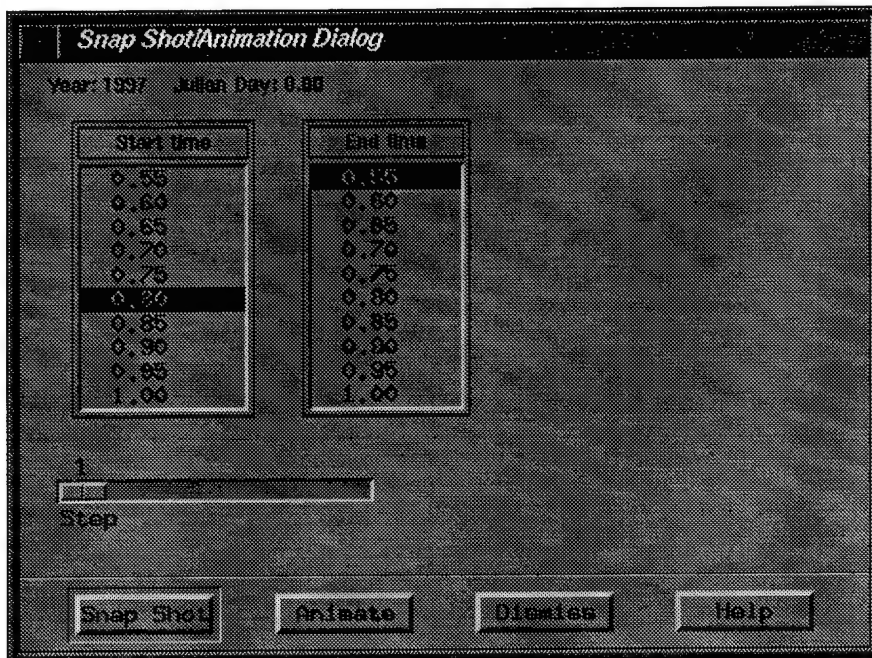
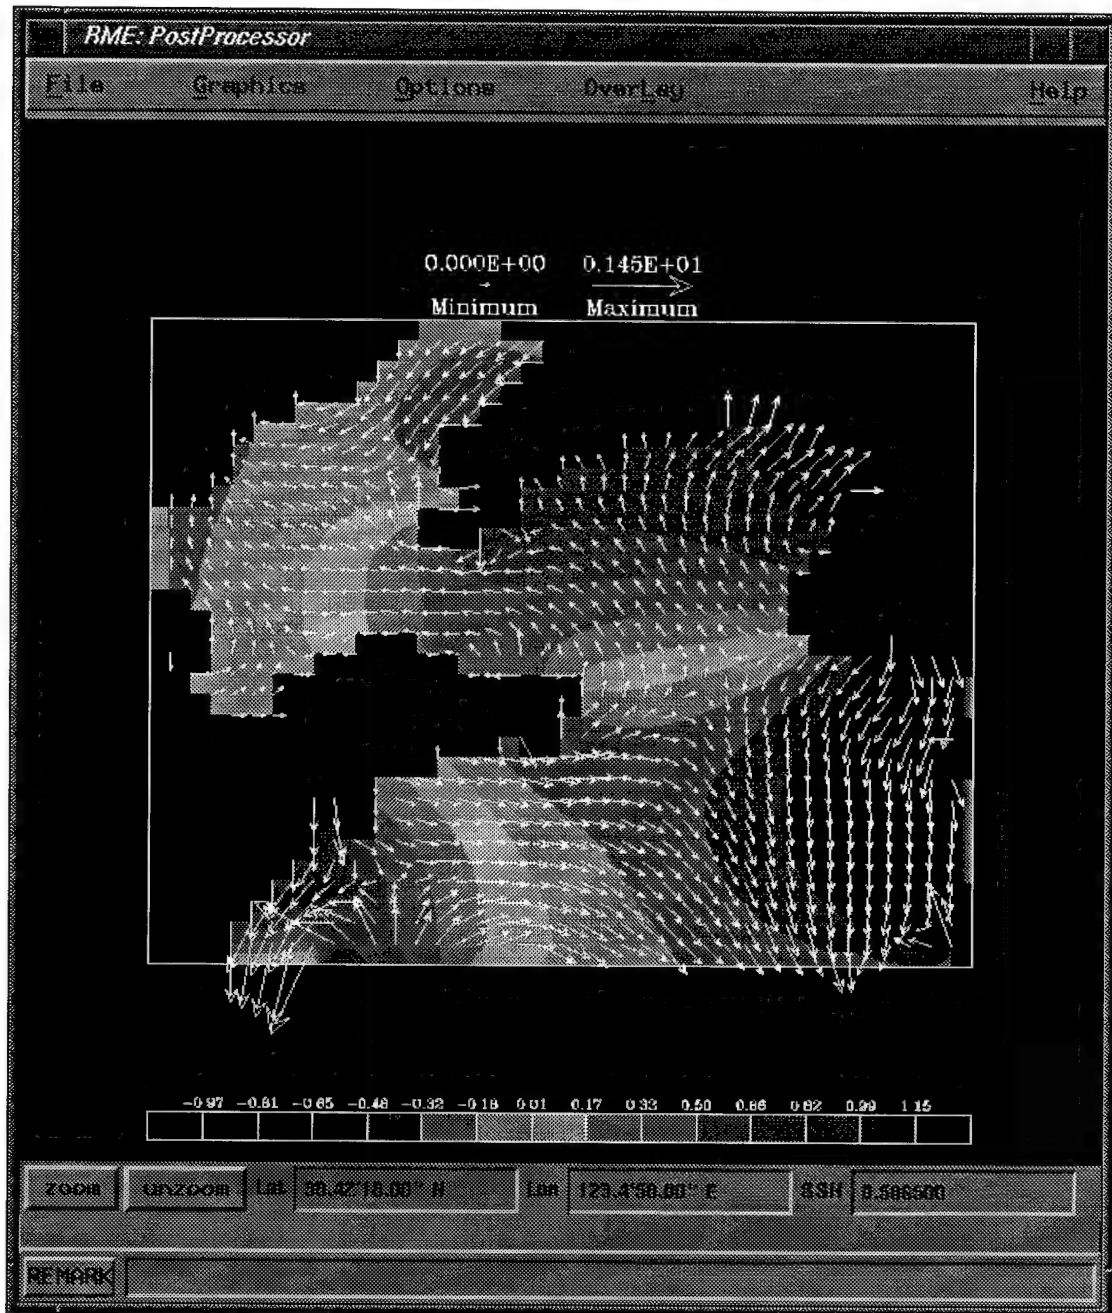

Figure 31 – The snap-shot/animation dialog window in the Post-Processor
Figure 32 – Snap shot from the Post-Processor
1. Click on the 'Snap Shot/Animation' button on the Graphics pull down menu. This generates a 'Snap Shot/Animation Dialog' window (Figure 31) and displays the SSH in color filled contours in the main window (Figure 32).